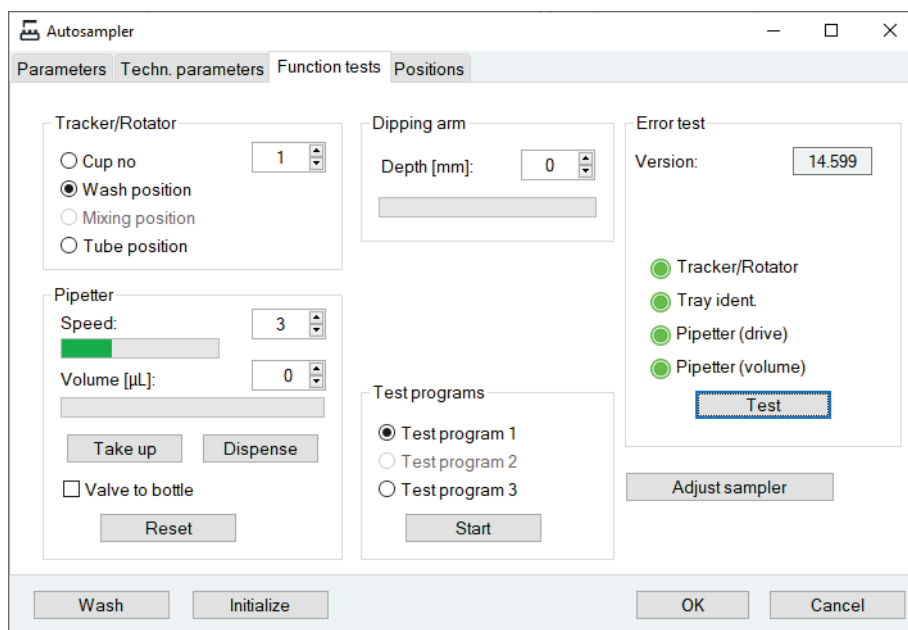

Fig. 67 AUTOSAMPLER window, FUNCTION TESTS tab
3. In ASpect LS use  to open the AUTOSAMPLER window. Open the FUNCTION TESTS tab (Fig. 67 on page 105).